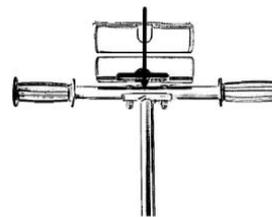

Fig. 4
Step 3: Install handlebar pad over handlebar and secure with Velcro(Fig.4).